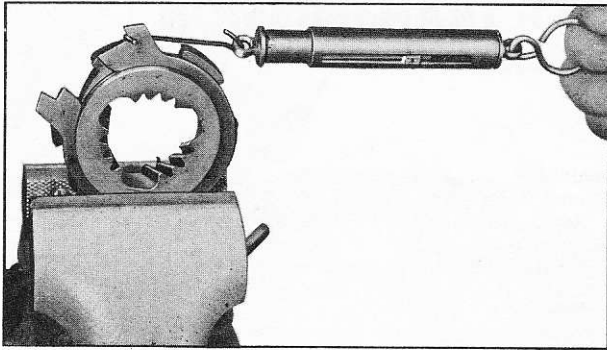

Fig. 15B—Measuring Blocker Ring Tension
- (1) Hold one lug of control plate in a soft jawed vise and hook a spring balance into the notch of the nearest blocker ring lug (fig. 15B).
- (2) Measure the pull required to rotate the ring